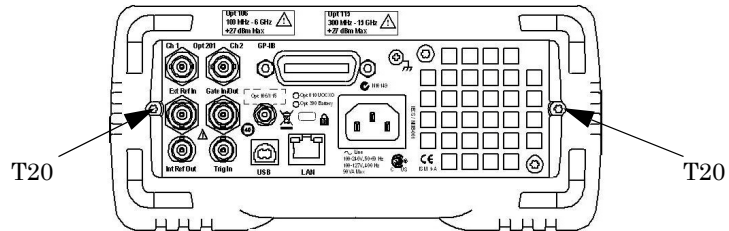

Figure 3-2. Rear Bezel And Cover Removal
- 3 To remove the rear bezel and cover, loosen the captive screws on the sides as shown in Figure 3-2, using the TORX 20 screwdriver.